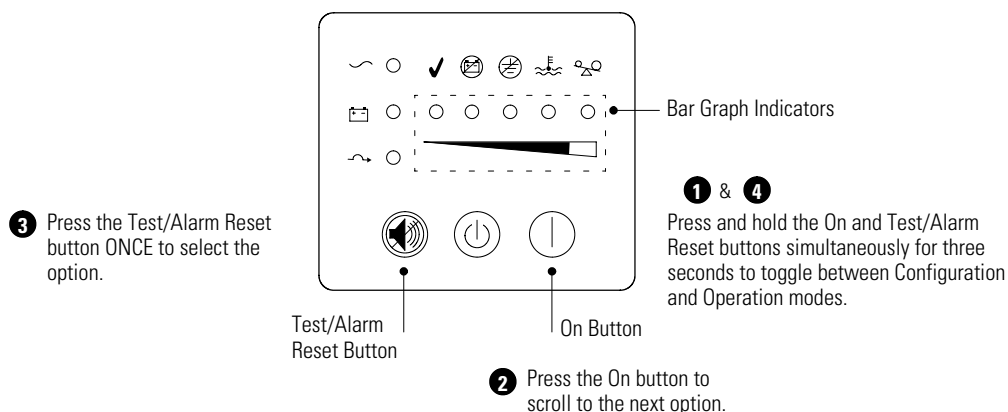

Figure 17. Using Configuration Mode
When the UPS is in Configuration mode, the bar graph indicators represent the configuration options. Use the control buttons (On | button and  button) to modify the UPS configuration. Figure 17 shows the LEDs and Table 2 explains the corresponding options.
2. Press and hold the On | button until you hear the second beep to scroll through the options. The LED for the selected option indicates the current setting; flashing represents disabled options (see Figure 17 and Table 2).